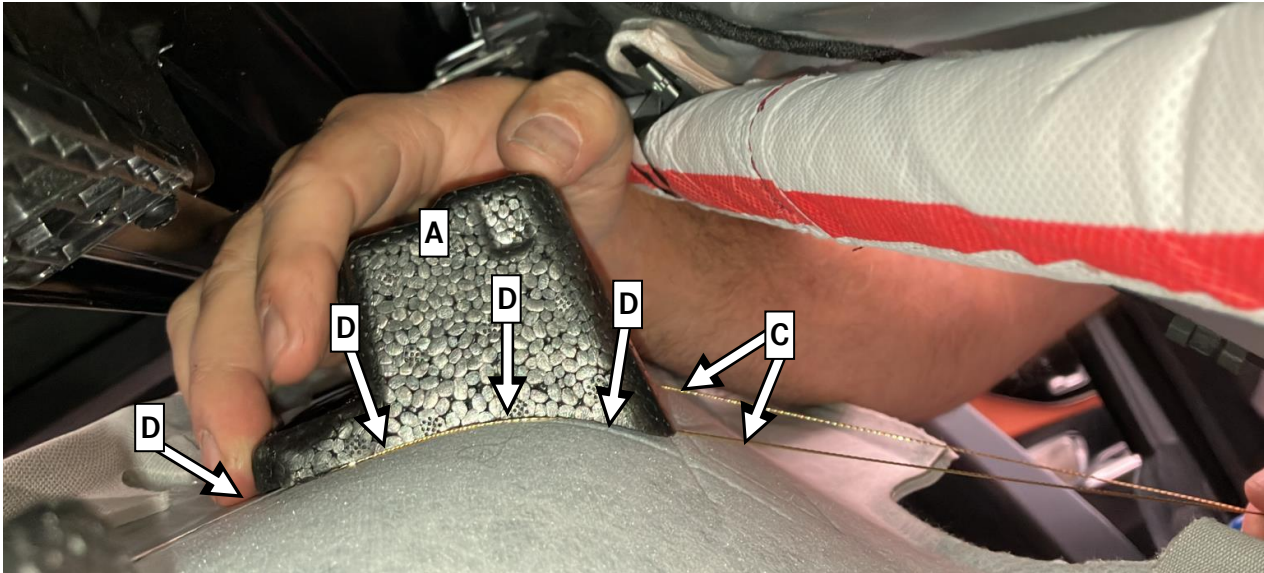

Figure 4 (Right side of vehicle, looking towards front passenger door)
6. Lower the headliner in the C-pillar area **only far enough** to allow the cutting wire to be positioned correctly (Figure 4) on the foam block to be removed.
7. Position the cutting wire (**Figure 4, C**) around the foam block (**Figure 4, A**) so that the adhesive seam in the subsequent cutting procedure is cut **directly between** the headliner and the rigid foam block (**Figure 4, D**).